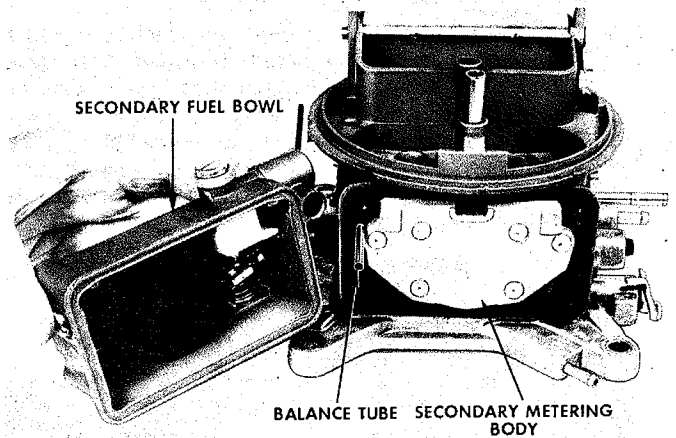

Fig. 2
3. Remove secondary fuel bowl by removing the four (4) short retaining screws. See Figure 2.